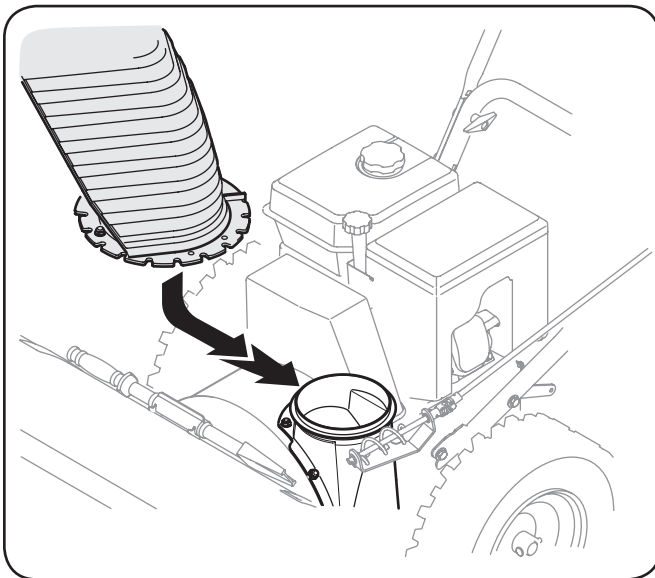

Figure 3-4
3. Place chute assembly onto chute base as shown in Figure 3-4. Make sure that the chute notches engage with the spiral end of chute directional control, and the two flange keepers are beneath the flange on the chute base.